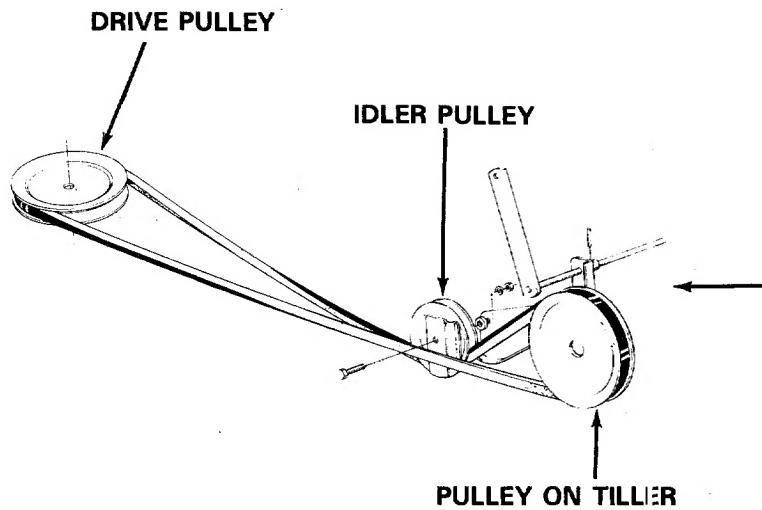

FIGURE 14
27. Assemble the belt as follows (refer to figure 14).
- C. Twist the belt 90° to the right as shown in figure 14. Slip the belt around the drive pulley on the tractor.